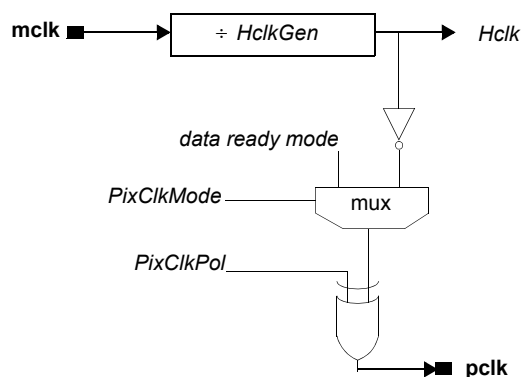

Figure 26. Clock Generation Module
The KAC-9638 contains a clock generation module (figure 26) that will create three clocks as follows:
**pclk** the pixel clock. This is the external pixel clock that appears at the digital video port. By default **pclk** is free running and its frequency is always equal to *Hclk* (see figure 26).